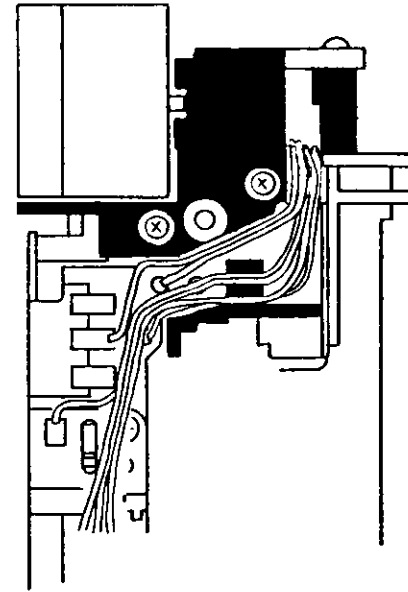

Fig. 19
- (4) Arrange the Lead wires as shown Fig. 19.